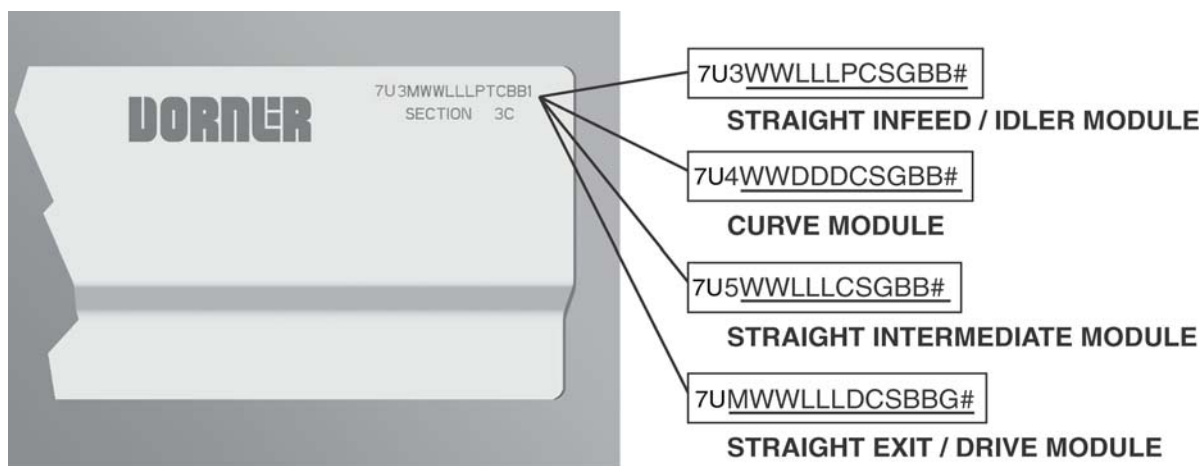

Figure 85
Refer to your serial and model number plate (**Figure 85**). From the model number, determine conveyor width (WW), length (LLL), pulley type (P), stand location, cleaning options (C), stand holes (S), guide profile (G), belt material (BB), degree of turn (DDD), drive/pulley type (D) and module serialized sequence (#).